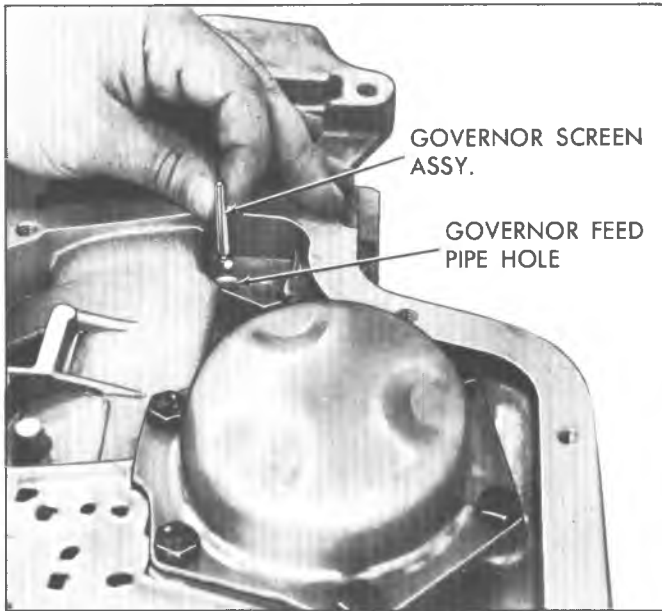

Fig. 10T-A-Removing Governor Screen Assembly
5. Remove governor screen assembly from governor feed pipe hole in the case or from end of governor feed pipe (fig. 10T-A). Clean governor screen in clean solvent and air dry.